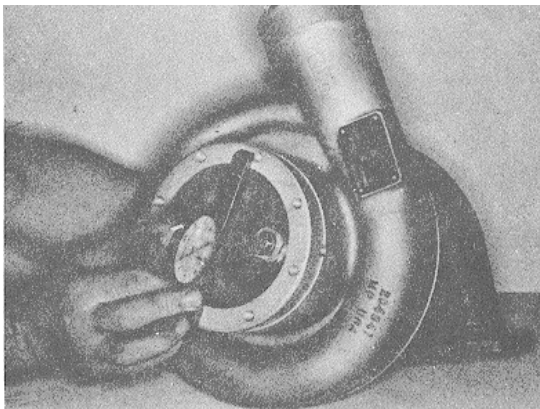

Fig. 10-38, T-545. Checking rotor end clearance
18. Check total end clearance with a dial indicator. Fig. 10-38. End clearance should be 0.006 to 0.017 inch [0.15 to 0.43 mm].